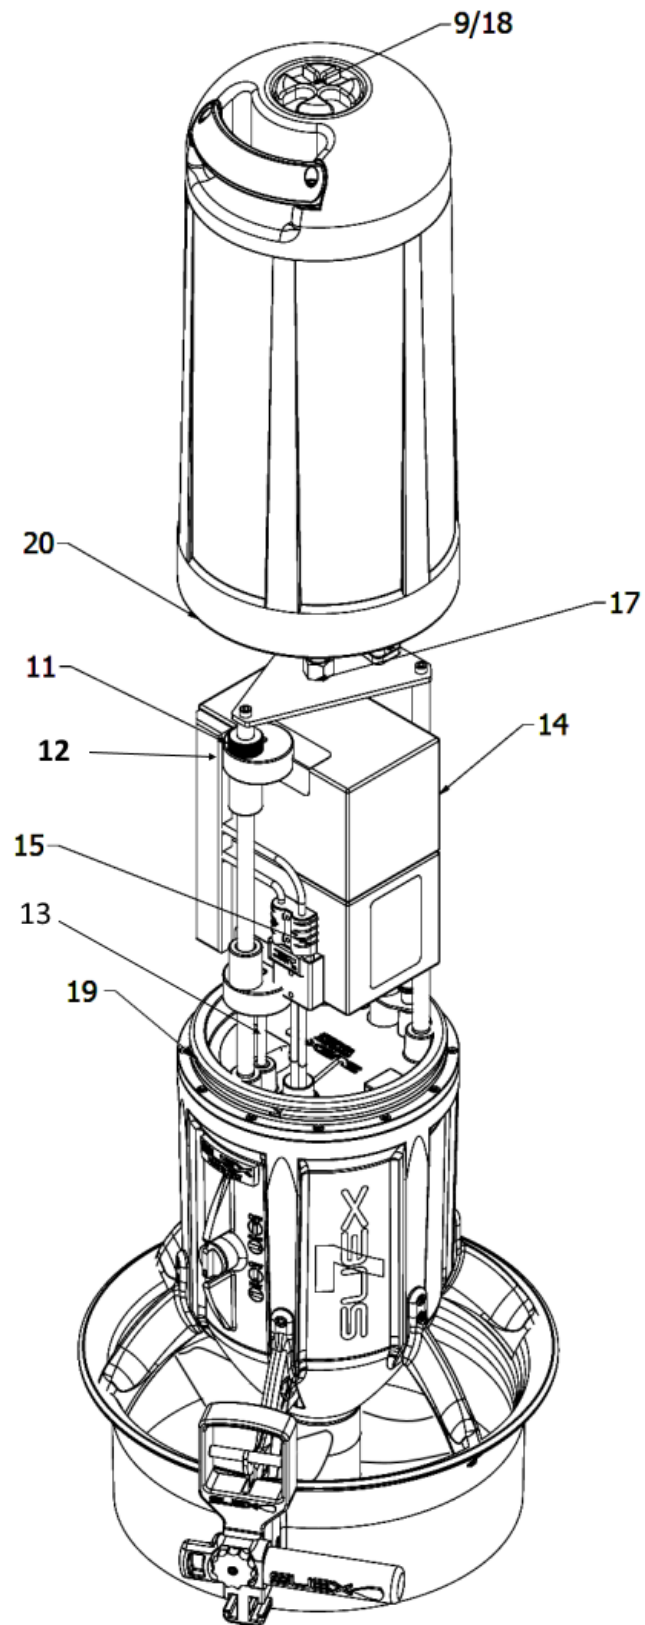

Fig.2 - Extracting the battery
Once the cover has been removed, disconnect the red connectors (15 - Fig. 2) (avoid pulling the cables), unscrew the white ring nut (11) and loosen the eccentric clamp (12) by levering upwards. Remove the battery (14) by lifting it slightly and sliding it out to the side, being careful not to pull the connector cables.
- check that the adjustment screw is positioned in the centering (13 - Fig. 2);
Always with the Scooter in vertical position, carefully check that the closing OR gasket (19) (fig.2) is inserted in its seat, cleaned and adequately lubricated with petroleum jelly. Also check the cleanliness of the body seat (20), if necessary pass a clean microfibre cloth to remove dust or sand. Insert the bow cap (8 - Fig.1) matching the screw (18) with the hole (17). Turn the handwheel (9) clockwise until it is completely closed without tightening too much using just the force of two fingers: the position of the handle on the roller must be aligned with the switch (Fig. 2).